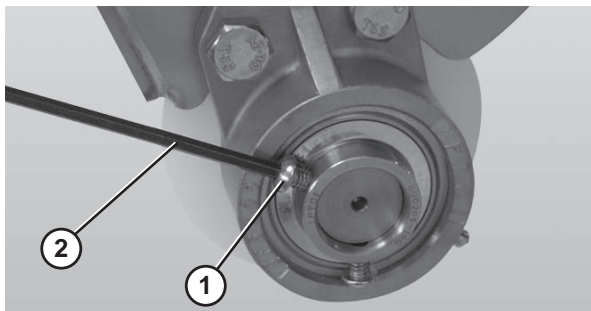

Figure 75
5. Tighten the 3 hole flange with bearing fasteners (**Figure 75, item 1**) using a hex wrench (**Figure 75, item 2**) to 54 in•lbs (6 N•m). Check after 24 hours of conveyor use.